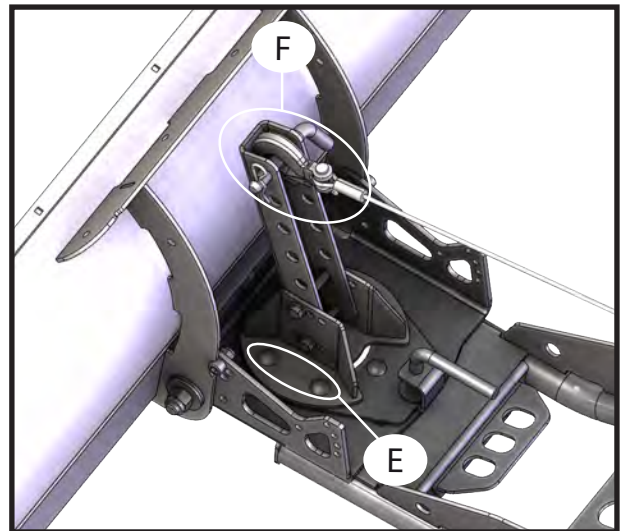

Figure 3: Drivers side view
3. Place lever lift arm as far forward towards blade to allow maximum pull as shown in **Figure 3**.
6. Place hitch pin in plow lever lift to achieve desired lift angle as shown in **Figure 3**.